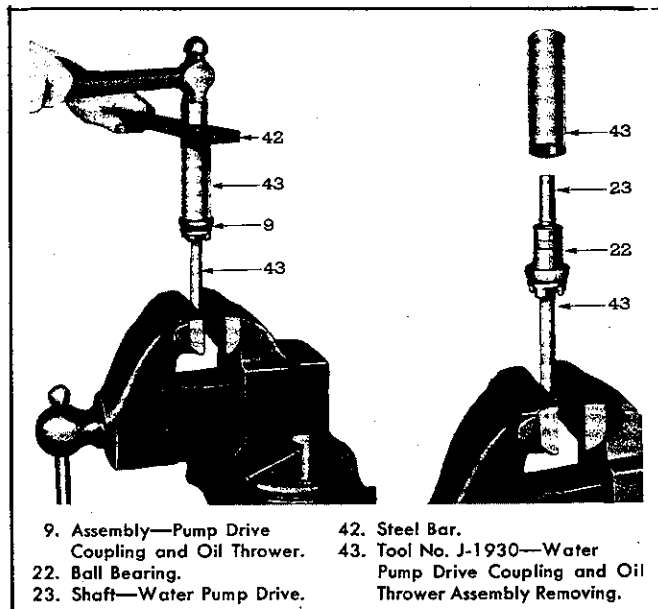

Fig. 6—Removing Water Pump Drive Coupling from Impeller Shaft with Tool J-1930.
3. If further disassembly is necessary, the pump drive coupling and oil thrower assembly (9) may be forced from the shaft with Tool J-1930, as shown in Fig. 6.